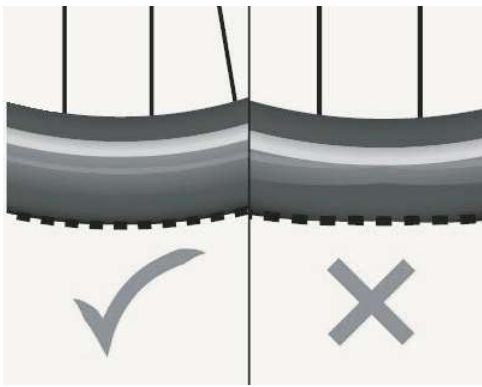

Fig. 3
It is advisable to first inflate the tyre without sealant to ensure there are no issues with obtaining a seal and that the beads will seat correctly. Attach a track (floor) pump and inflate to half the stated pressure of the tyre or rim (whichever is the lower). If there are any issues with obtaining a seal or seating the beads see the **ADDITIONAL ADVICE section. CORRECTLY SEATED BEADS ARE AN IMPORTANT SAFETY REQUIREMENT** (fig. 3).
Once inflated, check the tyre bead to ensure it has seated (see above and fig. 3). Shake the wheel around to distribute the sealant evenly within the tyre. It is then advisable to go for a short ride to make there are no issues with sealing or air leakage and to further distribute the sealant around the inside of the tyre.
- If the bead of the tyre is not fully seated around its full circumference on both sides then the use of Schwalbe Easy Fit (available separately) will, in most cases, solve the issue. On the tyre just above the bead there is a moulding seam line. If the tyre is correctly seated on both sides this seam line should run concentrically and evenly above the lip of the rim without dipping down at any point (as per fig 3.). Applying Easy Fit lubricates the beads of the tyre allowing them to slip in to the correct position. It then evaporates without leaving any residue behind.